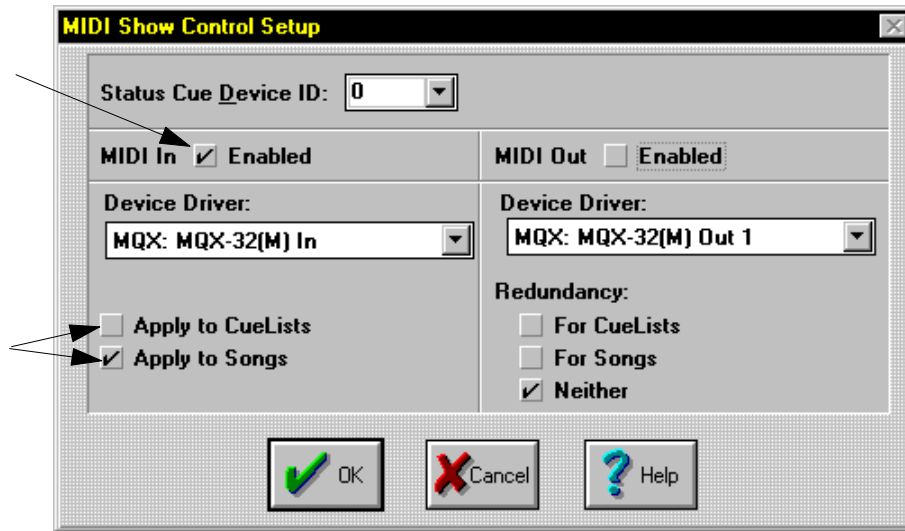

Figure B.3. Backup Computer MSC Setup
- On the backup computer, click the **MIDI In Enabled** box. Then, click either **Apply to CueLists** to enable redundancy for CueLists or click **Apply to Songs** to enable redundancy for Songs. Set the **Status Cue Device ID** from its drop-down menu. The ID must match the master system. Refer to Figure B.3. Click on the **OK** button to complete the operation and exit the dialogue box.